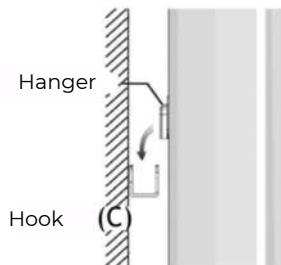

Figure 9
- Hand the heater on the two hooks (C) on the wall. Ensure that the heater is correctly secured on both hooks. (Figure 9).
- 5. When the heater is hung in place, make two marks on the wall where the two brackets (A) will be fixed to ensure the